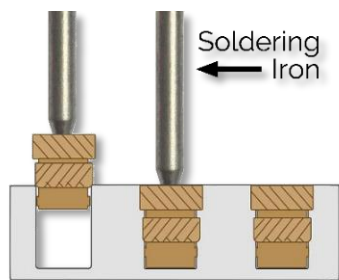

Figure 26
The two last steps we must complete are to properly position and connect the USB cable to the microcontroller as well as insert the (4) larger M3 threaded & knurled brass insert nuts which will help secure our project case cover. Let's first install the brass nuts by loosely inserting them in each of the four holes (pay attention to the orientation as shown in figure 26). With the tip of your hot soldering iron perpendicularly position in the hole of the nut, apply slight downwards pressure until each of the nuts are flush inside the holes as illustrated in figure 26 & 27.